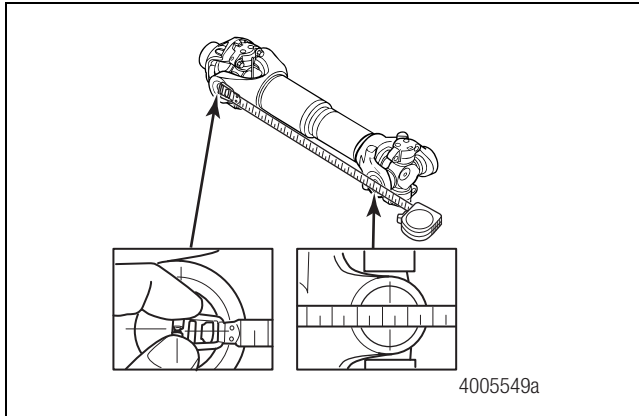

Figure 13.27
2. Measure the length of the driveline from the center of the transmission universal joint to the center of the carrier universal joint. Figure 13.27.
1. Measure the length of the driveline from the center of the transmission universal joint to the center of the carrier universal joint. Figure 13.27.